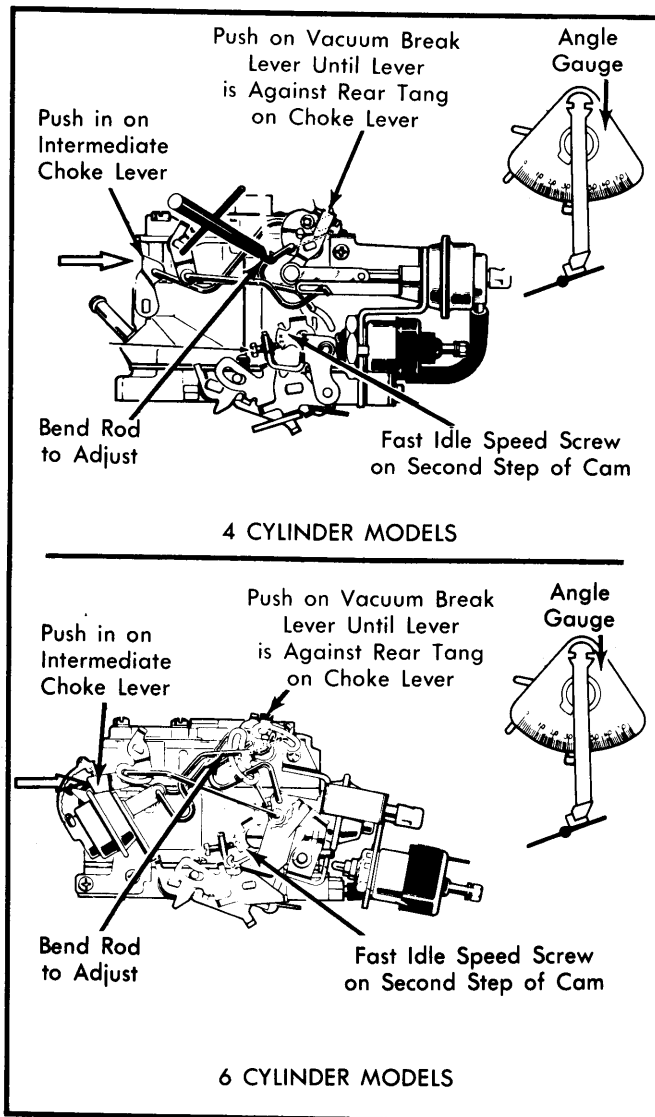

Fig. 5 Adjusting Choke Rod (Fast Idle Cam)
1) Place fast idle speed screw on second step of fast idle cam against shoulder of highest step. See Fig. 5.